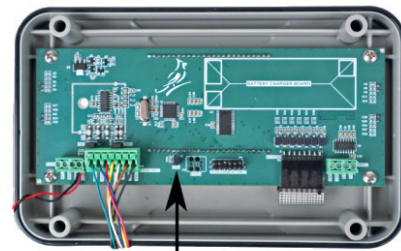

Figure No. 11 Calibration Jumper
Calibration of the indicator is accomplished entirely by the keypad. To enter setup and calibration, the calibration jumper must be removed and re-installed while the indicator is on. The calibration jumper is located on the main printed circuit board. Refer to Figure No. 11 for the location of the jumper. Loosen the four (4) Phillips screws securing the rear housing to the front housing, and remove the rear housing to access the calibration jumper.